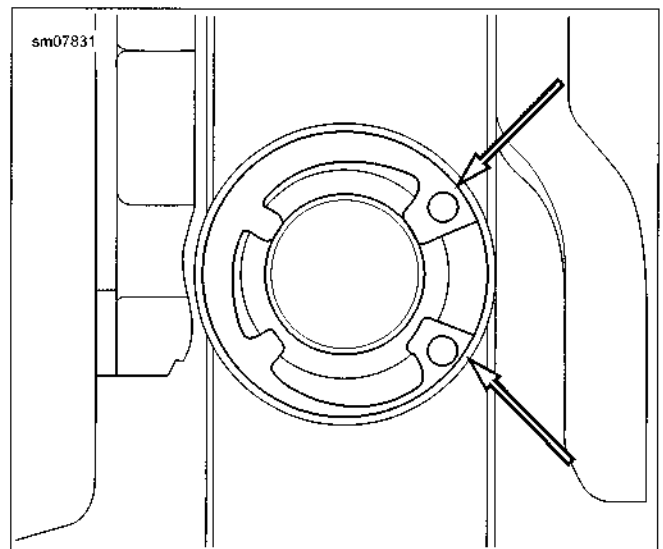

Figure 2-52. Piston Retaining Ring
3. See Figure 2-52. Press down on end of piston. Remove and discard retaining ring.